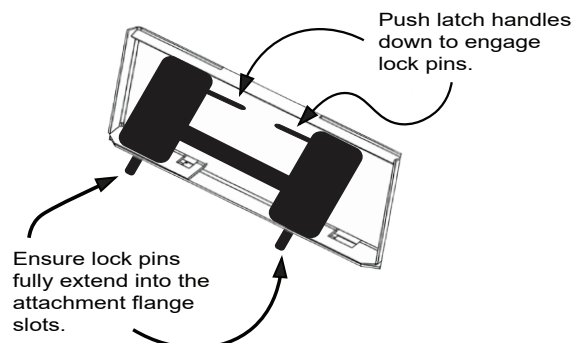

FIGURE 4.2B QUICK ATTACH COUPLER LOCKED TO ATTACHMENT PLATE
4. Activate your skid steer's lever lock switch to engage and lock the pins into the flange slots of the concrete claw attachment plate. If your skid steer does not have this switch, push the latch handles down until you can see the lock pins extend into the attachment flange as shown in Figure 4.2b below.